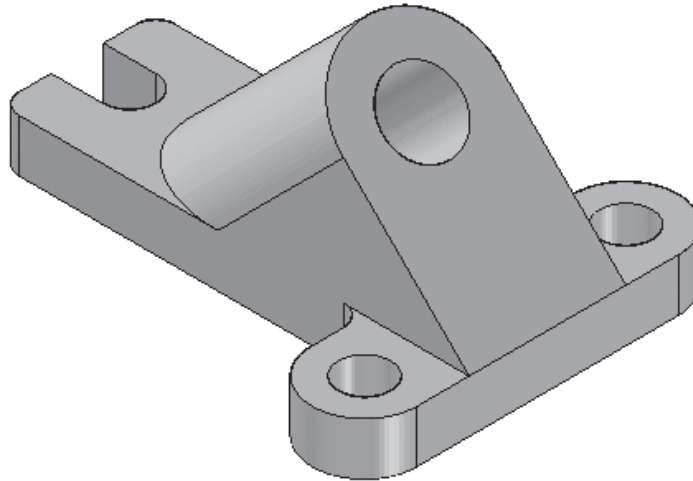

Figure 5-53 Final model for Tutorial 1
- c. Extrude the profile up to the next face to complete the feature, refer to Figure 5-53.
15. Press and hold the SHIFT key down and select the three base reference planes from the **EdgeBar**. Right-click and choose **Hide** from the shortcut menu to turn off the display of the base reference planes. The final model for Tutorial 1 is shown in Figure 5-53.